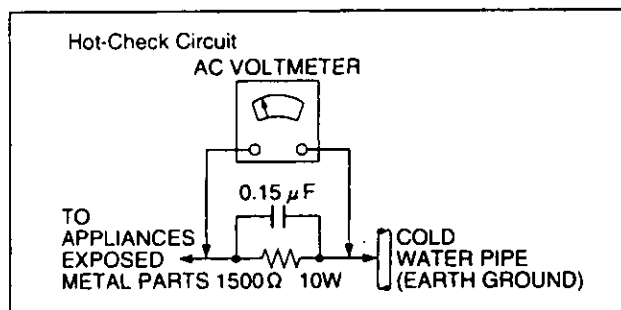

Figure 1
LEAKAGE CURRENT HOT CHECK (See Figure 1)
2. Connect a $1.5k\Omega$, 10W resistor, in parallel with a $0.15\ \mu\text{F}$ capacitor, between each exposed metallic part on the set and a good earth ground such as a water pipe, as shown in Figure 1.